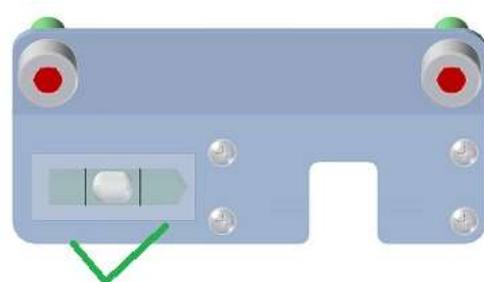

Fig. 3: Setting position with the help of the spirit level
- The vertical positioning of the pendulum rod should be adjusted using the positioning screws in such a way that the bubble of the spirit level is centered (see Fig. 3).